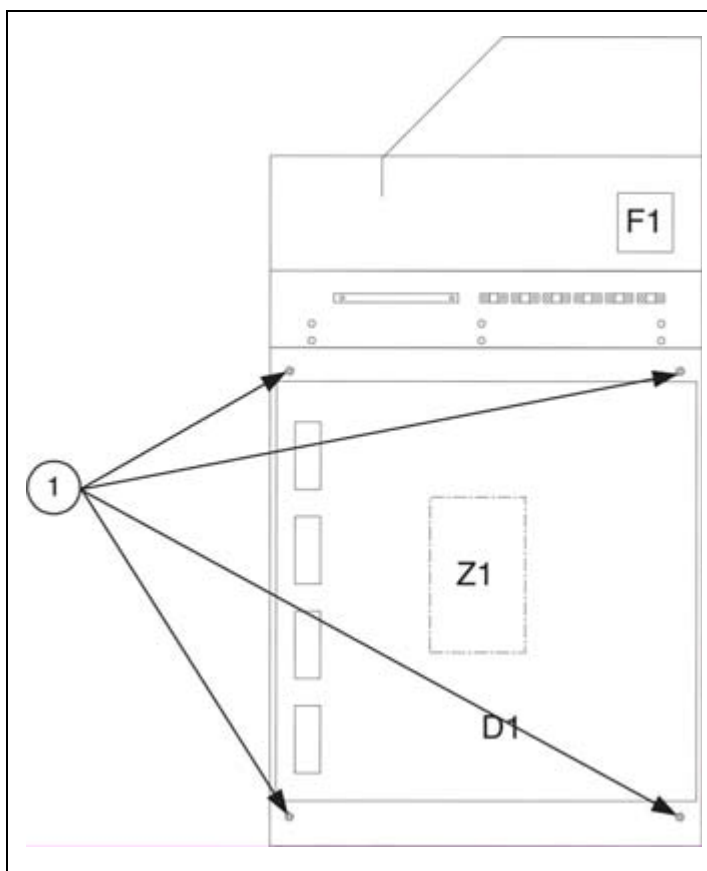

Fig. 15: BUC (1)
- Undo the 4 Allen screws (1/ Fig. 15 / p. 33) on the support plate.